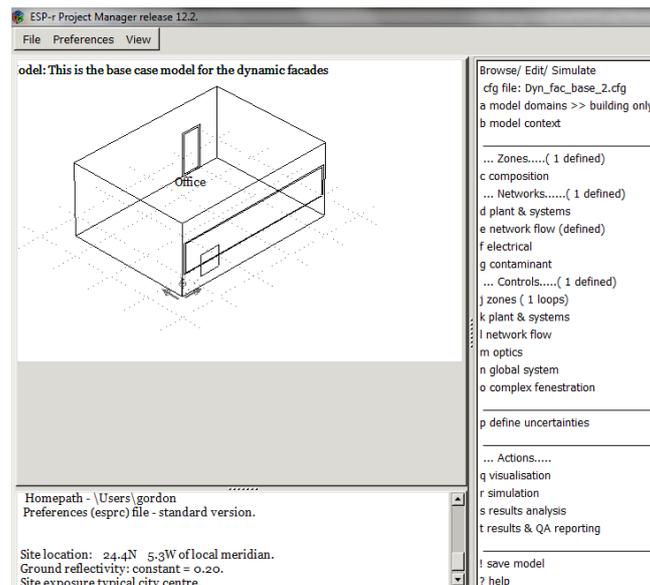

Figure 2
Step 3: Once in the browse /edit/simulate menu click >*composition*(figure 2)